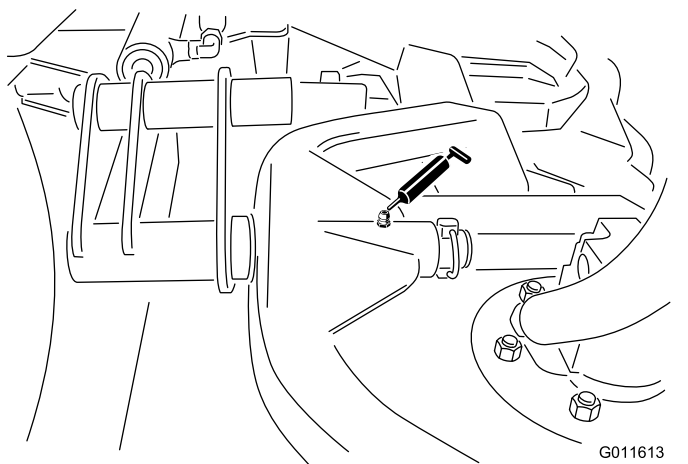

Figure 62
- Cutting unit carrier-frame pivot (1 each)—Figure 62